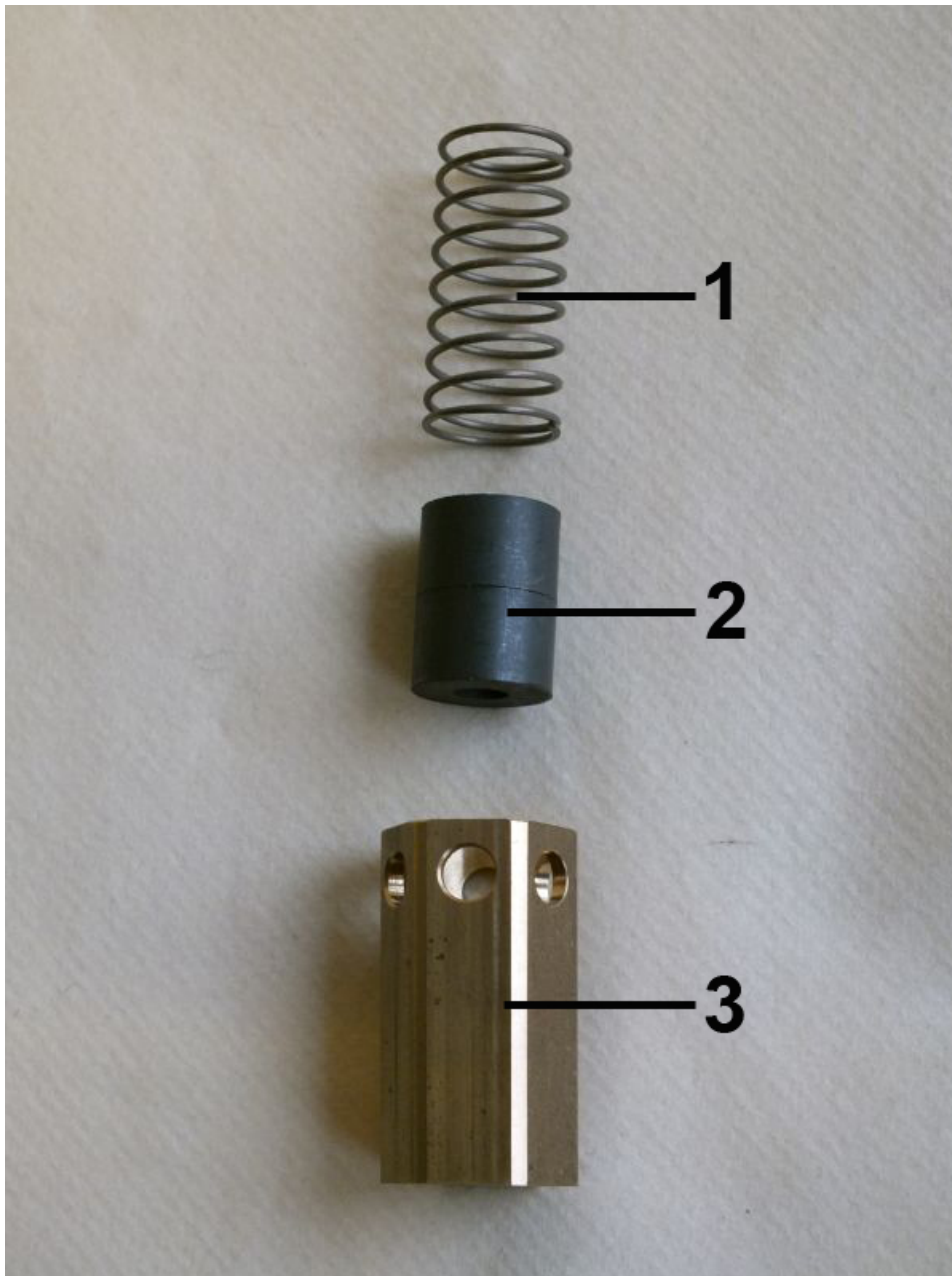

Fig. 29: Spring, magnets and float
- 4.** ➤ The inner parts of the flow monitor consist of the spring (*Fig. 29/1*), magnets (*Fig. 29/2*) and float(*Fig. 29/3*).